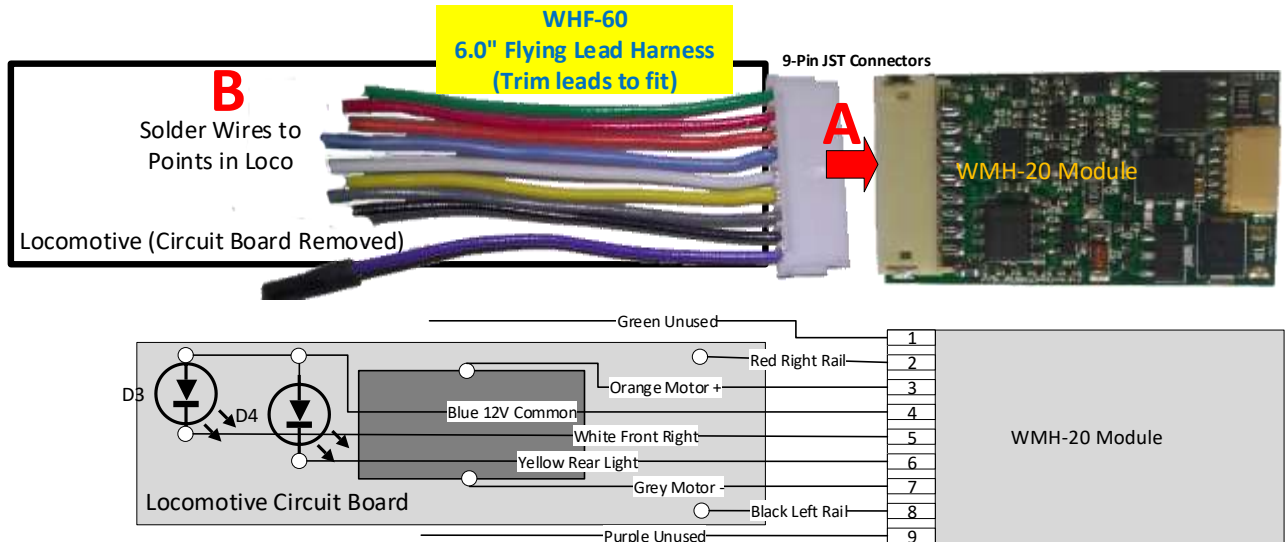

Figure 1. Connection Diagram
- (1) Ensure your locomotive is working properly. Do not install our unit in locomotives with damaged motors. Remove the plastic shell from your model locomotive.
- (2) **Make sure that the motor is isolated from the track power!** This is most important – if one side of the motor is connected to the track, perhaps through the frame, you will have to re-wire the locomotive before you start. You will not have this problem with DCC or DCC-Ready Locos.
- (3) Remove the circuit board from the locomotive if one is present. Locate the track pickups (Right Rail and Left Rail). Locate the connections to the motor, Motor + and Motor – in Figure 1. Locate the connections to the front and rear lights. LEDs must be used. If your locomotive uses filament lamps, obtain LEDs from our web site or your hobby electronics store.
- (4) Check the intended location of the WMH-20 unit in the loco. Insulate any exposed metal that will be underneath it with electrical tape. **This is very important.** We do not recommend putting shrink wrap around the unit as this may cause it to overheat.
- (5) Determine how you will solder the ends of the flying lead harness to the loco connection points. You may have to solder “wire to wire” with a piece of heat shrink sleeving over the joint. Often the motor has tags that you can solder to.
- (6) Trim the lengths of the flying leads to the required length. Allow just enough slack otherwise the leads will foul the body or the mechanism. Solder the leads to the connection points that your determined.
- (7) Connect the flying-lead harness to the 9-pin JST socket. See A on Figure 1. Make sure it is the right way around. **Do not force it in the wrong way around or you will break the socket.**
- (8) Check everything carefully for pinched wires or accidental contacts.
- (9) Place your locomotive on the track and apply power we recommend 12 – 14 volts (Note 3).
- (10) Verify that the front and rear lights flash briefly when the track power is turned on. Replace the shell.